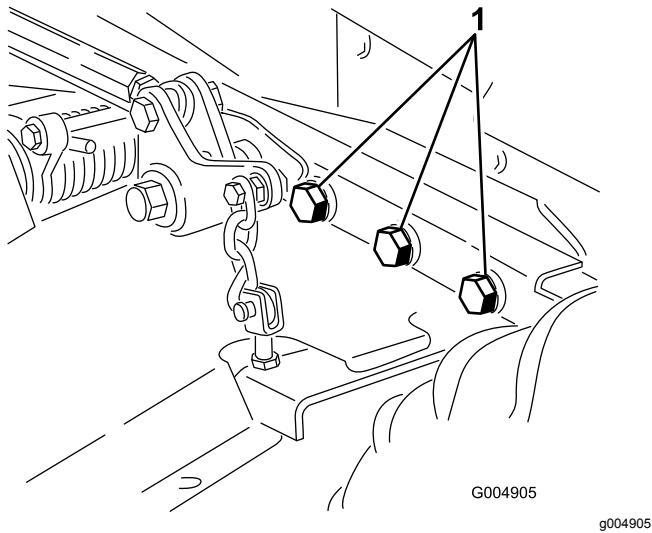

Figure 101
4. Check all fasteners for looseness and tighten them as necessary. Especially torque the 6 bolts securing the mower deck frame to the traction unit (Figure 101) to 359 N·m (265 ft-lb).